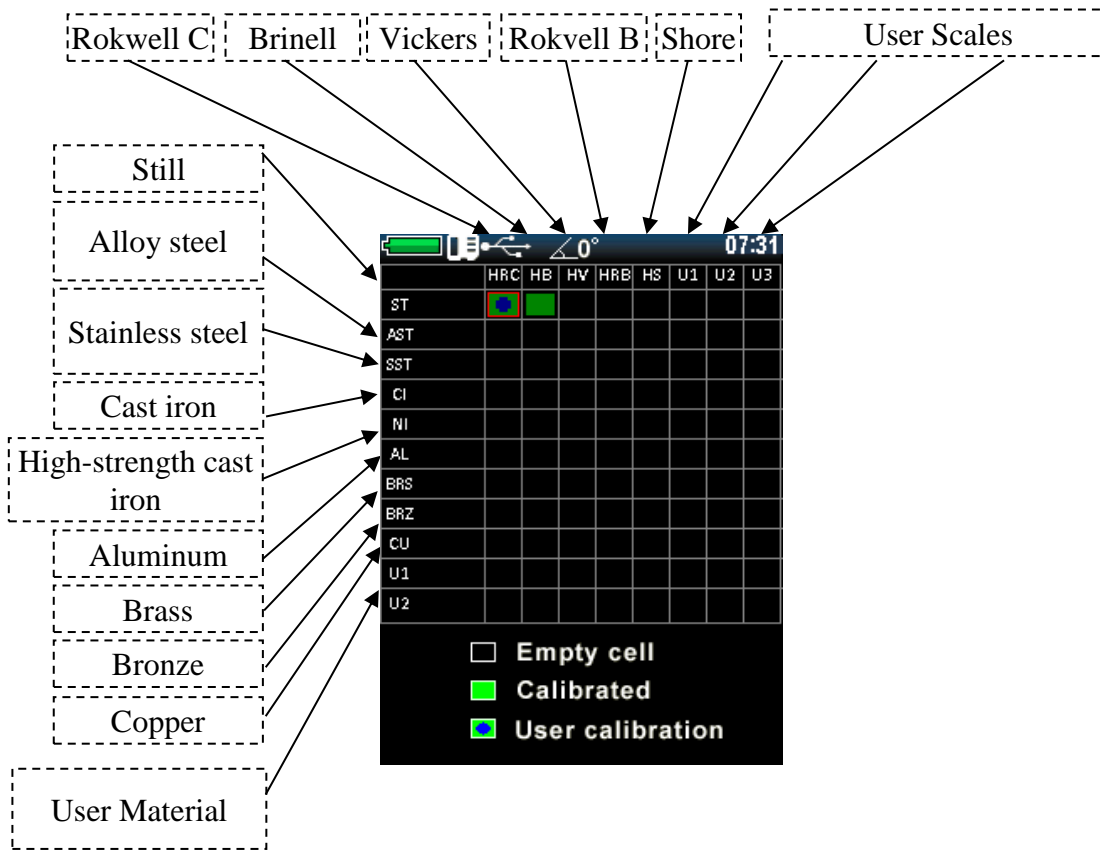

Figure 2.27 - Calibration Mode
1. Select <CALIBRATION> from the main menu. Each cell in the table corresponds to a specific calibration scale for a particular material (Figure 2.27). All calibrations can be calibrated for any materials and any scales, and are thus separated only for the systematization of a set of calibrations.